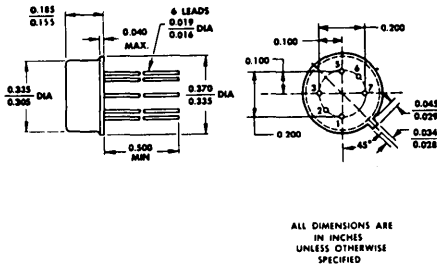

FIGURE 5. Dimensions of the TIL102/TIL103
4. **Small size.** The dimensions of these devices enable them to be used on standard printed-wiring boards. The TIL102 and TIL103 are built in a metal can similar to a transistor package while the TIL107 and TIL108 are made into a double-flanged package similar to two TO-18 transistor packages end to end. The physical dimensions of these packages are shown in Figures 5 and 6.